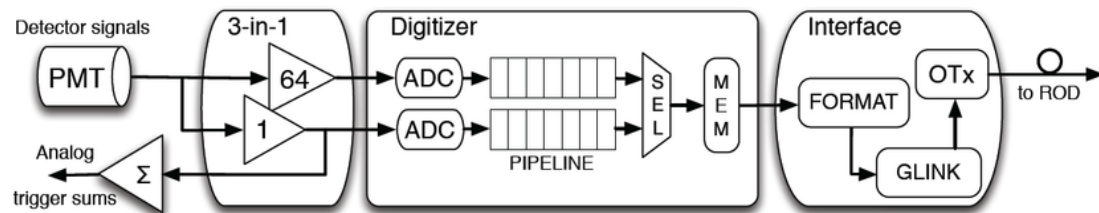

Figure 2: Current TileCal Electronic Readout Chain
- The electronic readout chain of the Tile Calorimeter shown in Figure 2 converts scintillation light signals generated by particle interactions within the detector into digitized data.